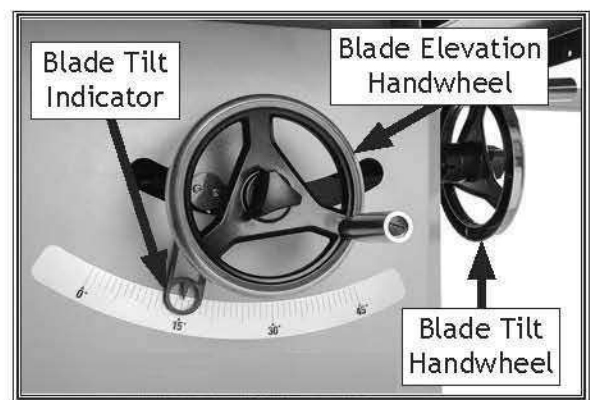

Figure 17. Blade tilt indicator and angle scale.
6. Turn blade tilt handwheel until blade tilt indicator points to 15° on blade angle scale (see **Figure 17**).